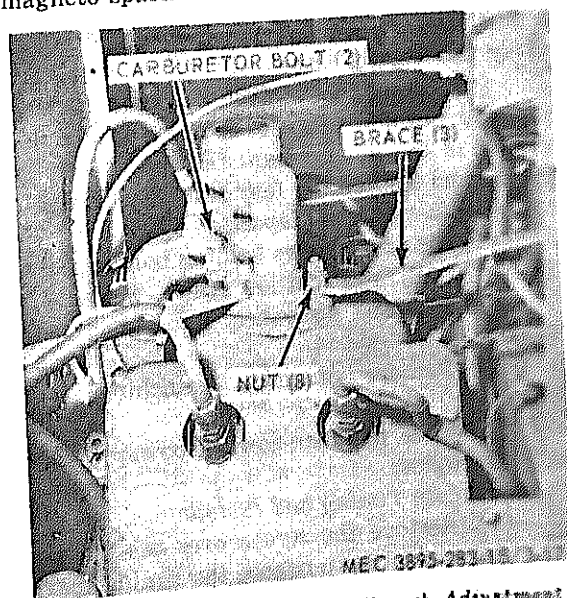
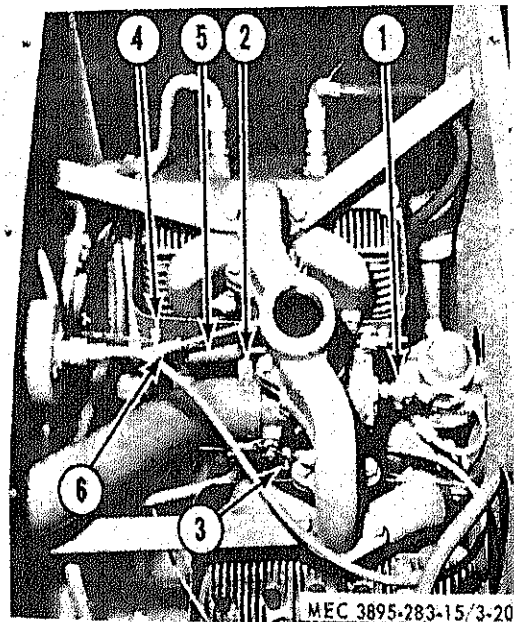

Figure 3-17. Upper Exhaust Branch Adjustment.
Figure 3-20. Removal of Carburetor.
- (2) Remove intake and exhaust manifold upper branch as illustrated in figure 3-17.
(1) Remove the engine canopy as outlined in paragraph 56.
(2) Remove connector (1, fig. 3-20) and fuel line.
(3) Loosen hose clamps (2), and remove hose from carburetor.
(4) Loosen the lock screws (3) holding the choke control cable to the carburetor. Remove cable from choke arm.
(5) Remove control arm screws (4) on governor control arm. Pull rod from arm.
(6) Remove the two bolts (fig. 3-17).
(7) Remove carburetor from engine.
(1) Install new gasket and carburetor in position on intake manifold. Tighten bolts evenly to prevent cracking carburetor casting.
(2) Position the governor rod in control arm (fig. 3-20). Install lockwasher and nut.
(3) Insert choke control cable through choke lever. Move choke control lever to open position (away from instrument panel). Push choke cable in and tighten locking screw in choke lever.
(4) Install air inlet hose on carburetor and tighten the clasp.
(5) Replace canopy as outlined in paragraph 3-35.
(1) Remove carburetor (para 3-39).
(2) Remove upper manifold as illustrated in figure 3-17.
(1) Remove upper manifold (para 3-40).
(2) Remove governor spring from lever (5, fig. 3-20).
(3) Remove cotter pin from control and drop chain from slot.